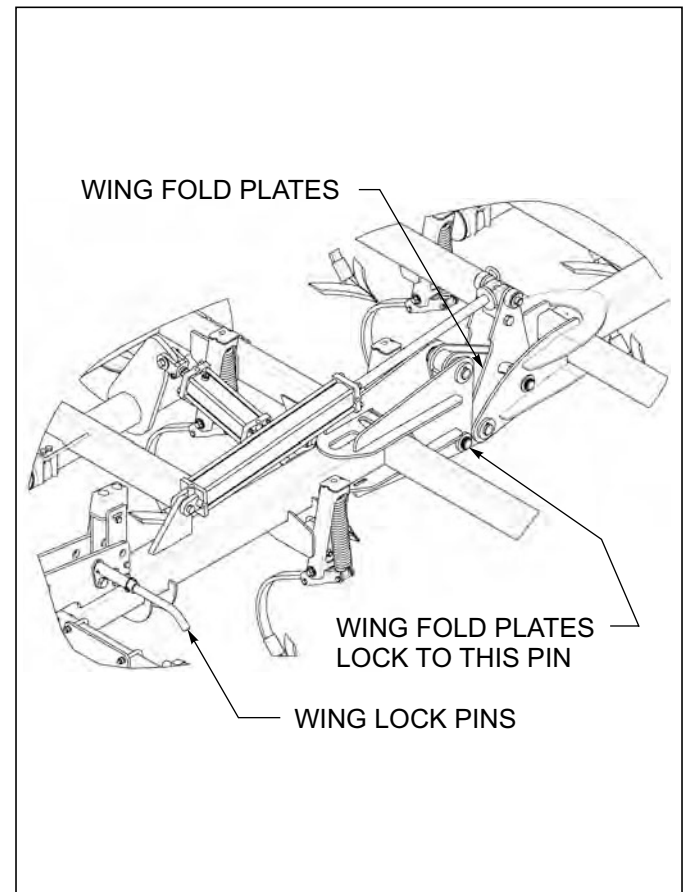

Figure 4-6: Wing Fold Plates
4. Continue to hold lever until the fold cylinders are fully extended to lock the outer wing fold plates (See Figure 4-6.) This will allow the wings to fully flex in the field.